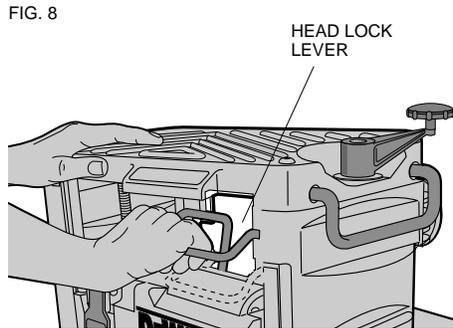
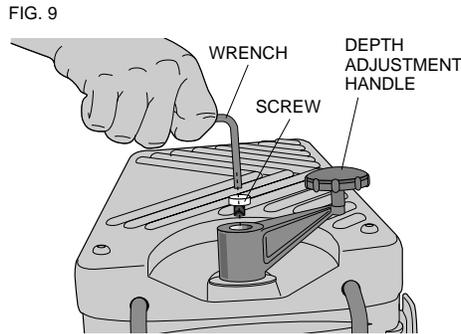

FIG. 8
FIG. 9
Using the allen screw provided, attach the depth adjustment handle as shown in figure 9.
To set the finished thickness, first unlock the head lock lever (Figure 8). This allows the cutting head to be easily adjusted. Re-lock the head lock lever before planing for best results.
- Unlock the head lock lever (Fig. 8) and turn the adjustment handle counter-clockwise to raise the cutting head (Fig. 9) fully.